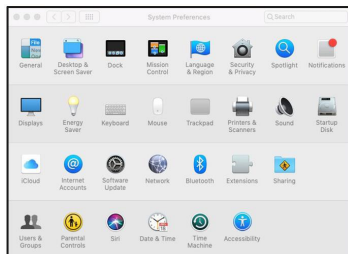

Figure 18
1. Select the **System Preferences** screen. From the **System Preferences** screen, select the **Printers & Scanners** icon. (Figure 18)